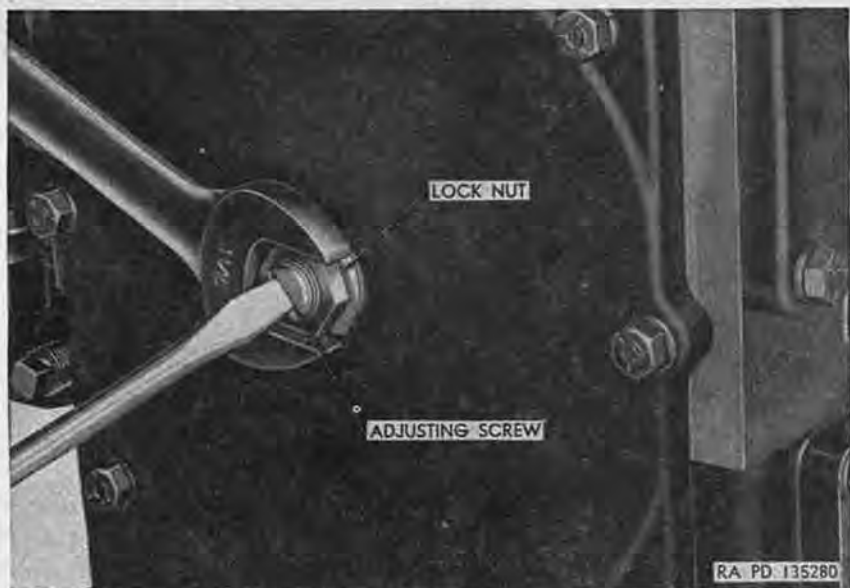

Figure 265. Adjusting pitman-arm shaft.
- (c) Loosen locknut (fig. 265) at right side of steering gear housing.
- (e) Tighten adjusting screw (fig. 265) until a very slight drag is felt when turning the steering wheel with a light grip of the thumb and forefinger. Wheel should turn freely with just a perceptible drag.
- (f) Holding the adjusting screw to prevent further turning, tighten the locknut (fig. 265).
- (g) Adjust steering gear jacket ((2) below).
- (2) *Steering gear jacket adjustment.*